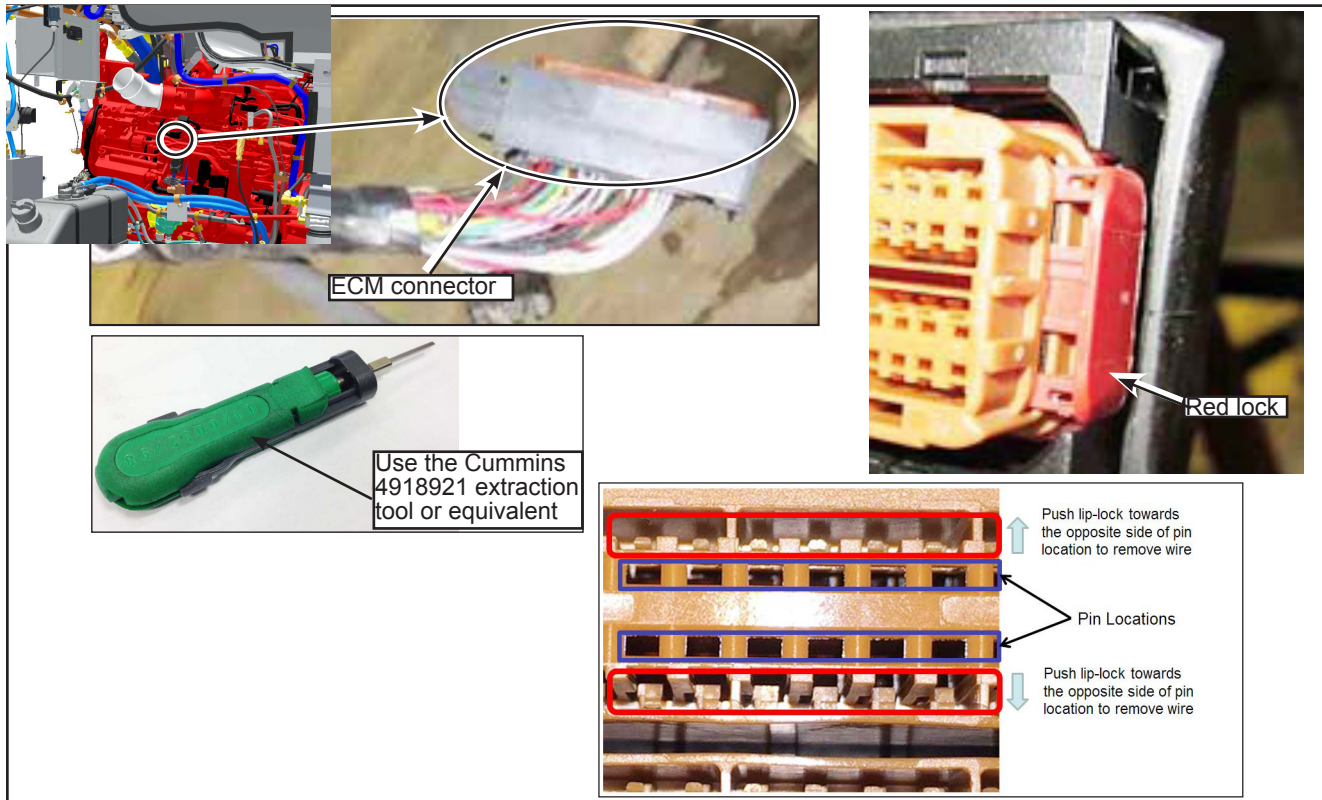
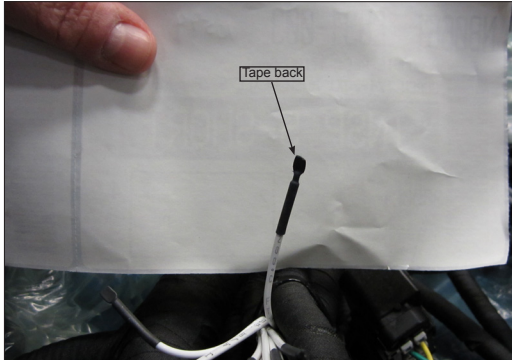

Figure 5 - Extract the Wires From the ECM Connector
Figure 6 - Extract the Wires From the ECM Connector and Install Wire Kit Wires
- 1.5. Raise the bus, open the ECM connector back shell, remove the red lock and extract the terminals and wires from the ECM connector for the APS1 and APS2 using the Cummins 4918921 extraction tool (see details provided next page on Figure 6). Avoid pulling on the wires prior to having pushed on the lip locks with the Cummins extraction tool. Insert the Cummins extraction tool while avoiding a rotation movement, then pull on the wire once the wedge of the extraction tool has unlocked the pin (see Figure 5).
- 1.6. Tape back using heat shrink tubing (N27548-18) on all wires that were cut or disconnected. For APS1 use positions 9, 10 and 33. For APS2 use positions 61 and 64. Install the five new wires of the wire kit. Reassemble the ECM connector and lower the vehicle (see Figure 6).